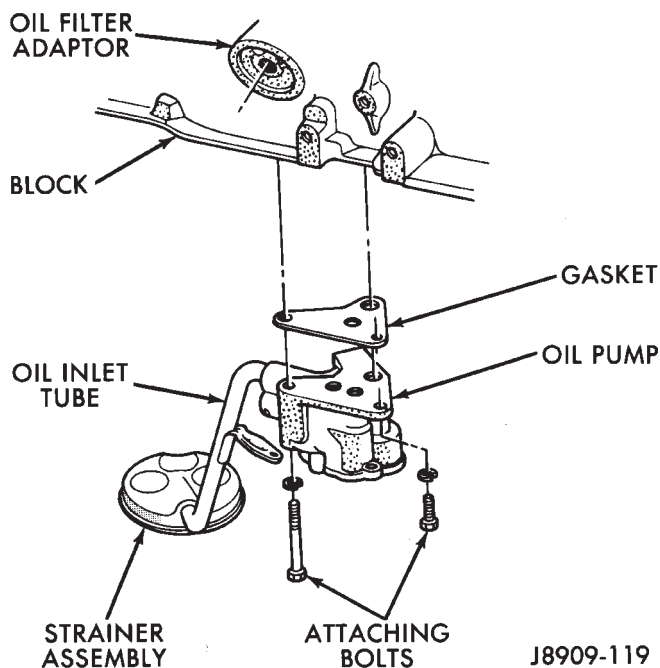

Fig. 4 Oil Pump Assembly
- (1) Drain the engine oil.
- (2) Remove the oil pan.
- (3) Remove the pump-to-cylinder block attaching bolts. Remove the pump assembly with gasket (Fig. 4).